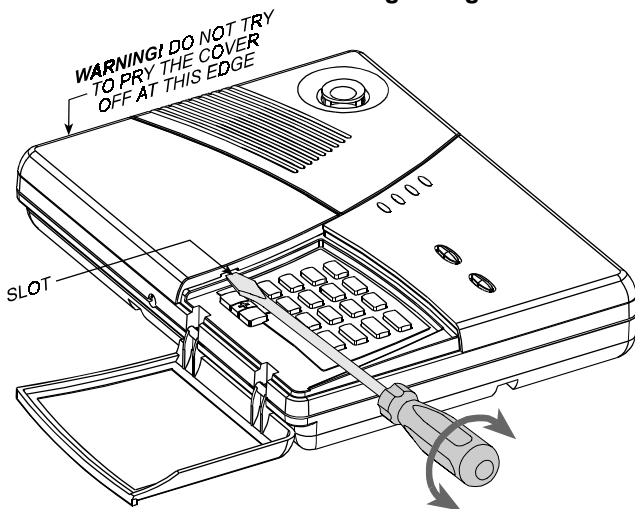

Figure 11. Prying the Cover Loose
- C. Insert a wide bladed screwdriver into the slot shown in Figure 11, and turn the handle slightly to force the right edge of the left-hand cover up. This should dislodge the two catches and free the right edge of the cover.